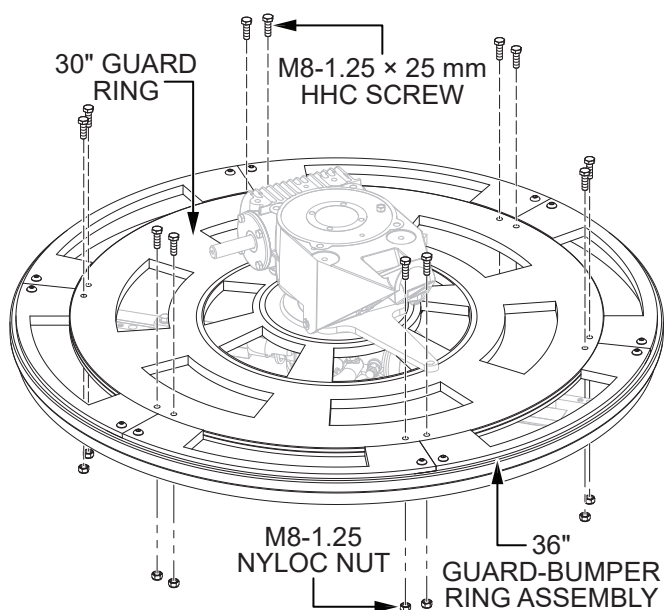

**Figure 22. 30-Inch Bumper Ring Removal**
2. Remove the six M8-1.25 × 25 mm HHC screws, six M8-1.25 × 45 mm HHC screws, and twelve M8-1.25 nyloc nuts securing the 30" bumper ring to the 30" guard ring (Figure 22). Retain the twelve nyloc nuts and six M8-1.25 × 25 mm screws for installation of the 36" guard-bumper ring assembly.